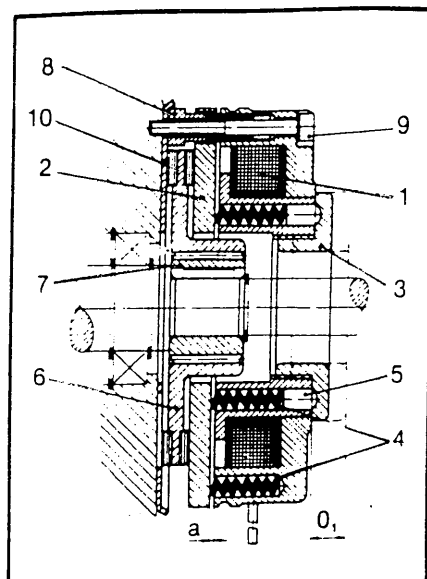

FIGURE 1
The Lenze Electromagnetic Release, Spring Set Brake - Type 14.448, as shown in Figure 1, produces its stopping torque by the use of multiple springs (4) exerting pressure against the armature plate (2). The armature plate, in turn, is forced towards the friction plate (8) (or mounting flange (10)) compressing the dual faced friction rotor (6) between the armature plate and the friction plate (or mounting flange). Figure 1 illustrates the position of the armature plate, friction rotor and friction plate in the set position. The rotor is internally splined to the hub (7) which is keyed to the shaft.
(NOTE: Air gap dimension is illustrated in Figure 1 denoted by "a").
The brake is supplied from the factory with the nominal torque settings. This torque can be reduced by unscrewing the torque adjustment ring (3) with a spanner within the limit of the "0," dimension given in Table 1 and depicted in Figure 1. The torque adjuster ring has dent action with torque variation per step given in Table 1.
In most applications, the brake needs practically no maintenance. However, after a long period of operation, or if the brake has a high duty cycle, adjustment of the air gap ('a', Figure 1) may be necessary. When the 'a max' value shown in Table 3 is exceeded, adjust the value back to 'a' using the air gap adjustment instructions described in Section V, step 9 of the assembly instructions.